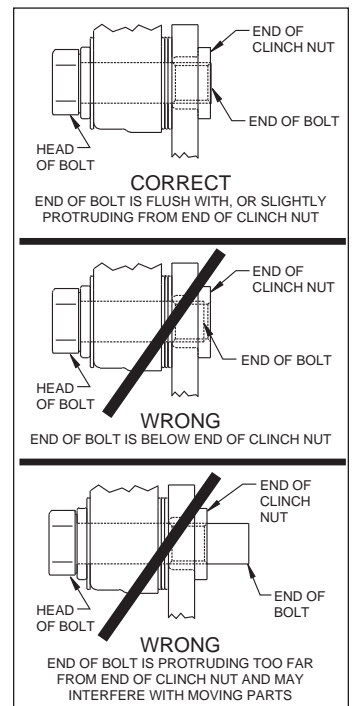

Figure 5. Clinch Nut Engagement Diagram
**Assembly Instructions** (numbers in parenthesis refer to the parts list, and Figure 2 on the preceding pages): **CAUTION:** All mounting bolts must fully engage clinch nuts. Be sure to check that all bolts are either flush or protruding through flanged side of clinch nut after shimming, Figure 5.
- Pack the small outer bearing cone (14) with high temperature disc brake bearing grease and install into hub (7). Slide the hub/rotor assembly onto the spindle. Secure using spindle washer (15) and OEM spindle nut, Photo 7. Adjust bearings per OEM specifications. Install saved OEM nut lock (if any) and a new cotter pin (not included).
- Screw dust cap (17) into hub (7), Photo 8. Friction created by the o-ring (16) on the dust cap keeps it from unscrewing. **NOTE:** The O.D. of the existing OEM spindle washer may be larger than the I.D. of the dust cap not allowing it to seat against the hub face. Therefore, use the spindle washer (15) supplied with the kit instead of the OEM washer.
- NOTE:** Please reference the caution statement at the beginning of the assembly instructions. Mount the caliper (18) onto the caliper mounting bracket (1) using bolts (20) and washers (19), as shown in Figure 2. Initially place two .035" thick shims (21) on each bolt between the caliper and the bracket, Photo 9. Temporarily tighten the mounting bolts and view the rotor (11) through the top opening of the caliper. The rotor should be centered in the caliper, Photo 10. If not, adjust by adding or subtracting shims between the bracket and the caliper. Always use the same amount of shims on each of the two mounting bolts. **NOTE:** The end of each bolt must be flush with or slightly protruding from the head of the clinch nut, as shown in Figure 5. If necessary place spare shims between washer (19) and caliper mounting ear to achieve the proper clinch nut engagement. Once the caliper alignment and clinch nut engagement are correct, remove the bolts one at a time, apply red *Loctite*® 271 to bolt threads, and torque to 40 ft-lb.
- Install the disc brake pads (22) into the caliper, with the friction material facing the rotor (11), and secure in place using cotter pin (23), Photo 11.